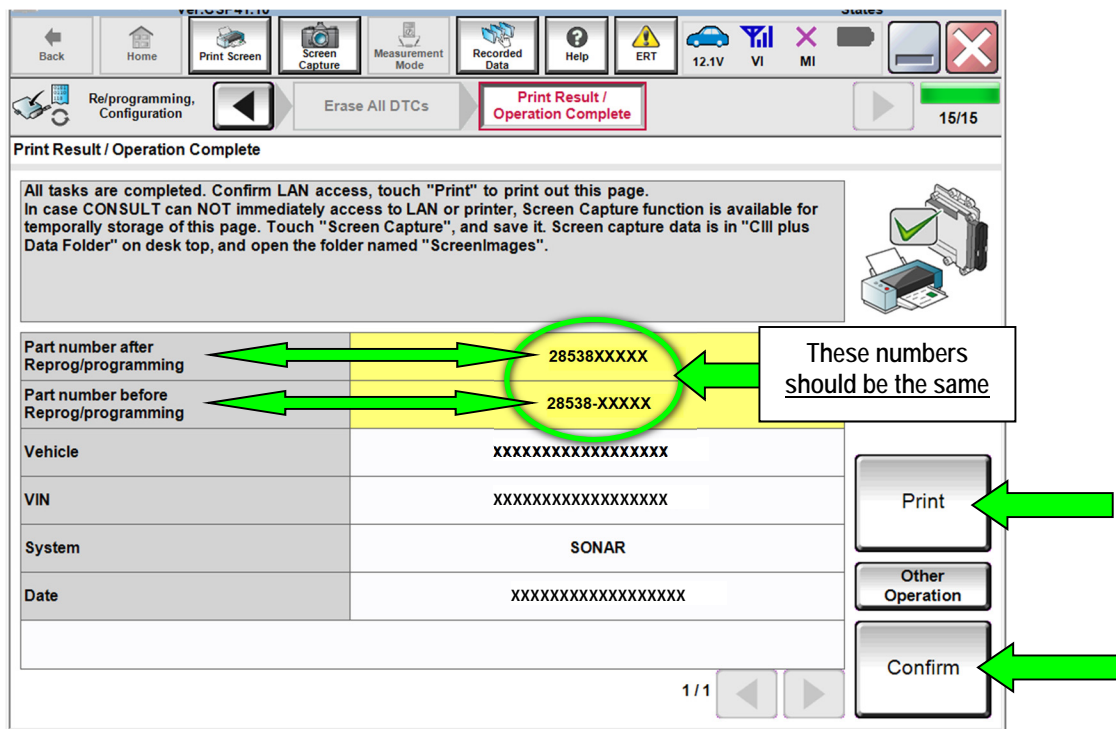

Figure 28
HINT: When the entire reprogramming process is complete, the screen in Figure 28 will display.
42. Print a copy of the screen below (Figure 28) and attach it to the repair order for warranty documentation.